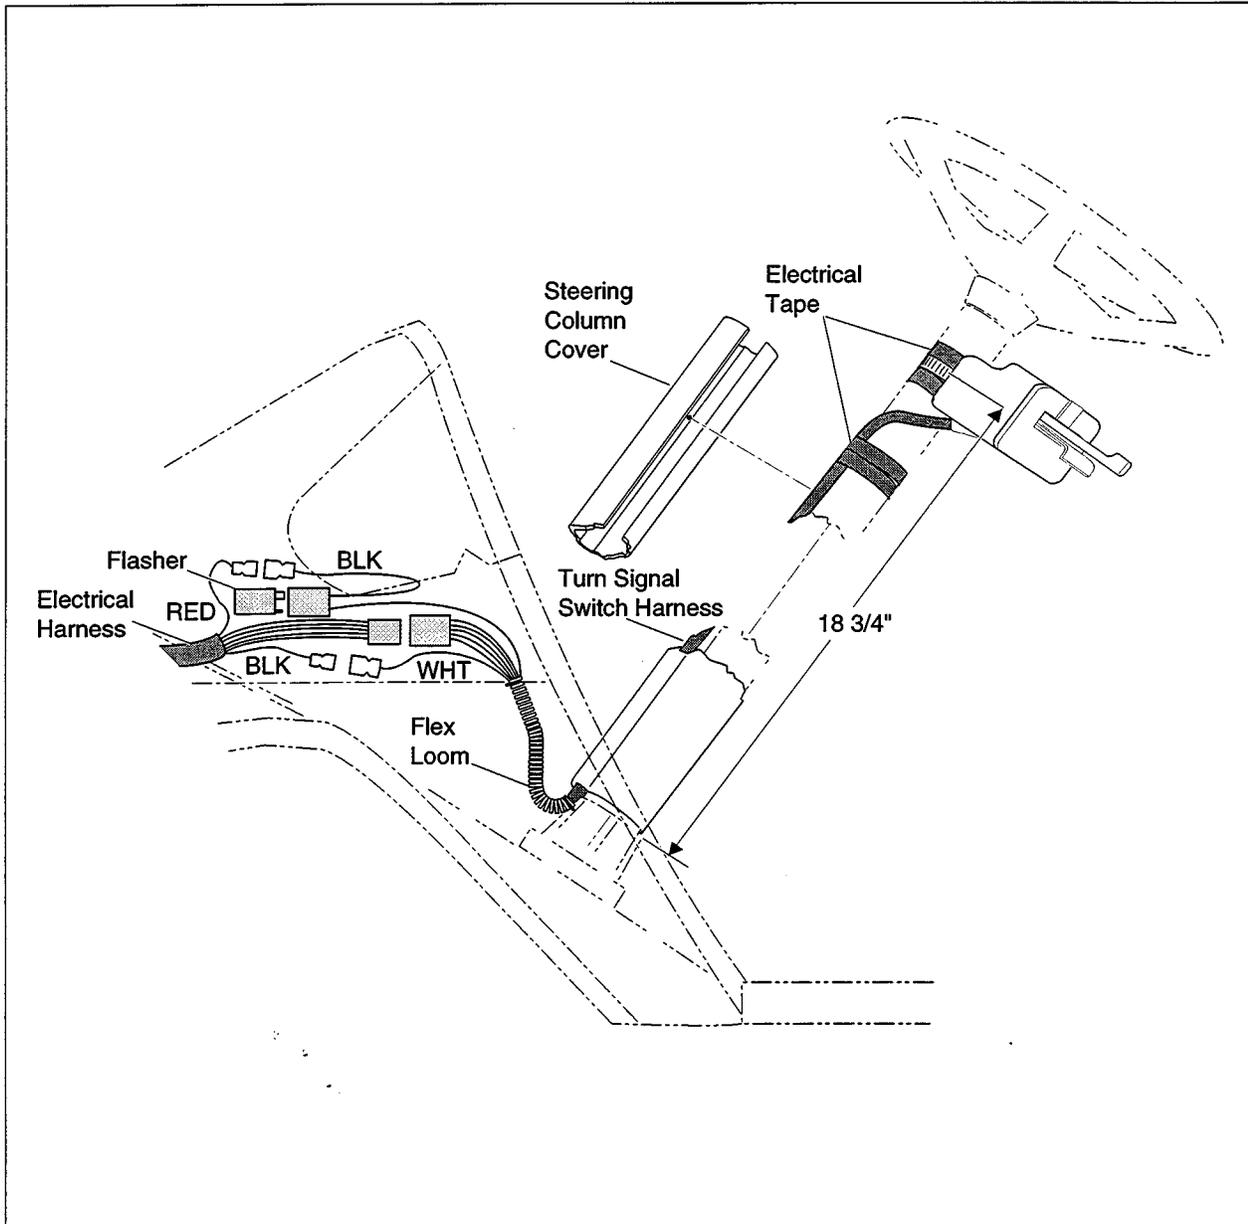

Fig. 2
B. TURN SIGNAL HARNESS CONNECTIONS (See Fig. 2)
C. TURN SIGNAL SWITCH INSTALLATION (See Fig. 2)